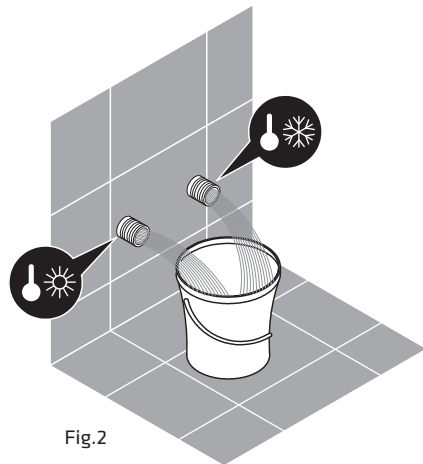

Fig.2
- Before installing the showerpanel, it is advisable to clean and run water in the pipes to avoid subsequent damage caused by waste accumulated in the pipes(Fig.2);